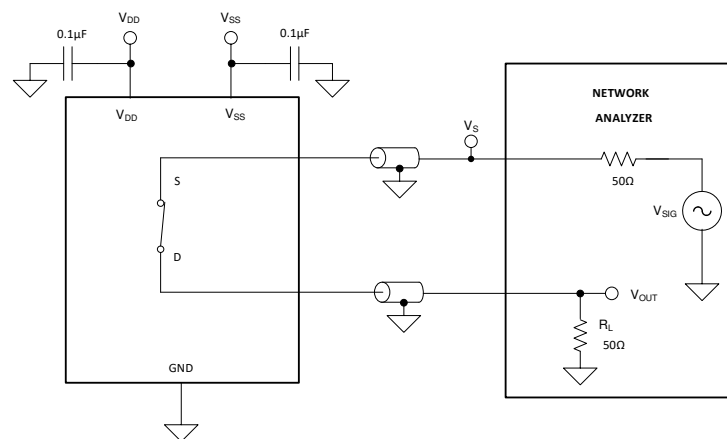

图 6-10. Bandwidth Measurement Setup
Bandwidth is defined as the range of frequencies that are attenuated by less than 3 dB when the input is applied to the source pin (Sx) of an on-channel, and the output is measured at the drain pin (D) of the device. 图 6-10 shows the setup used to measure bandwidth.